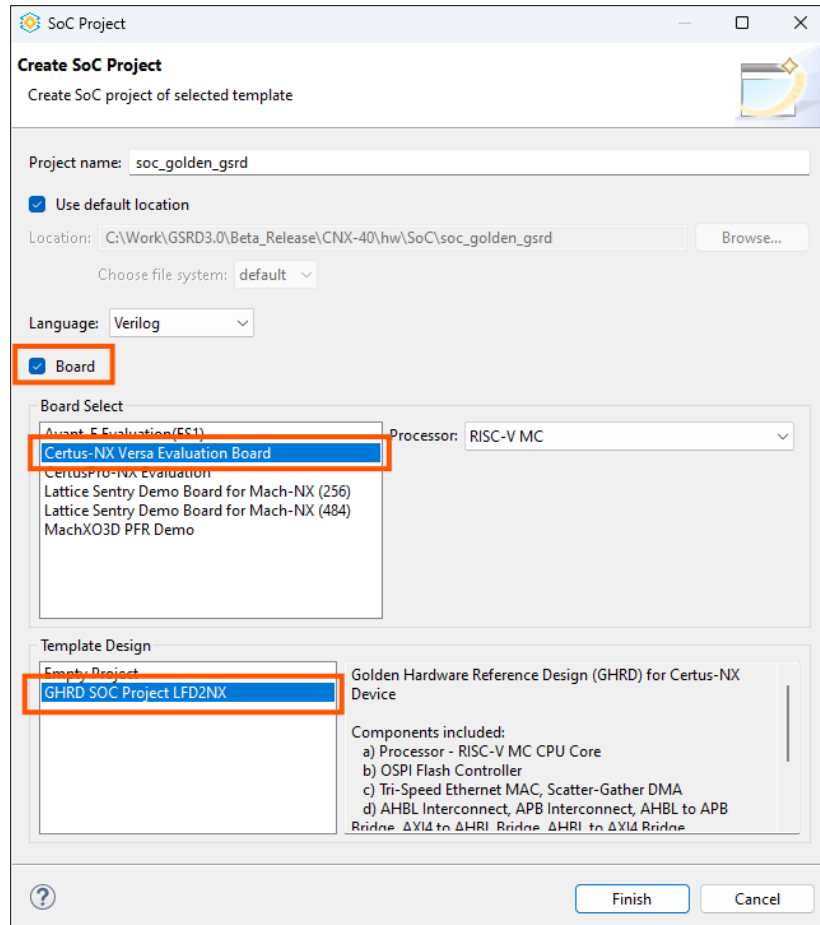

Figure 7.4. SoC Project Window
- e. From **Template Design** section, select **GHRD SoC Project LFD2NX** as shown in Figure 7.4.